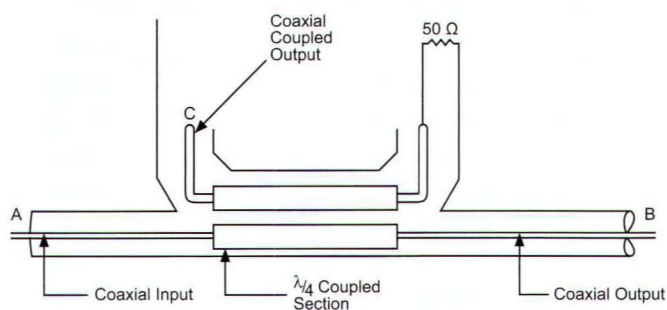

Figure 1. Diagram of a typical directional coupler
The basic construction of a coupled-line directional coupler can be seen in Figure 1, which illustrates a typical coaxial-line, microwave directional coupler such as might be used for microwave applications. It consists of two parallel striplines coupled over a length of approximately one-quarter wavelength. The mainline input (A) and output (B) coaxial lines are connected to one stripline; the other stripline is terminated in Z_0 at one end, and is connected to the coupled output port through a coaxial line (C). The two sections, referred to respectively as the main and auxiliary lines, are separated from each other except for the coupling area, through which energy is unidirectionally coupled from the main line to the auxiliary line. An internal view of a typical Narda coaxial coupler is shown in Figure 2.